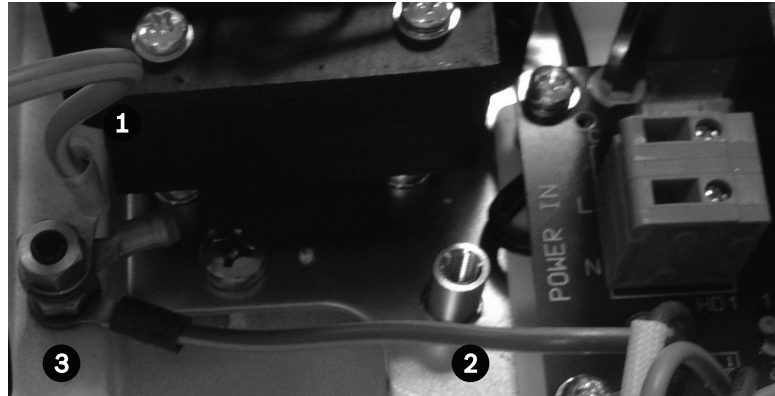

Figure 3.6 Power (mains) input with shield removed, showing terminal block HD1 before wiring
- Do not stretch or cut, or otherwise disturb, the earth core cable to the inside of the lid and to the earth termination post. (See *Figure 3.6.*)
11. Remove the brass nut and copper washer from the earth termination post (item 3, *Figure 3.6*); set these aside.
13. Insert the earth core from the mains cord (item 2, *Figure 3.6*) into the crimp portion (size M6, UL-certified) of the ring terminal and crimp it in place.